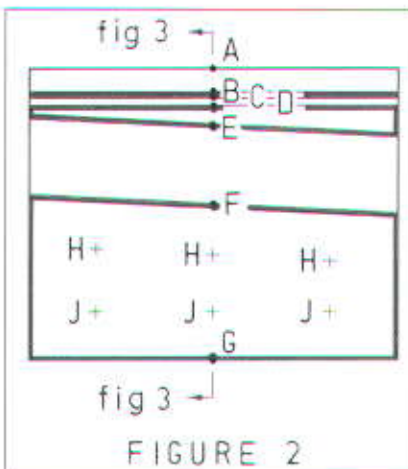
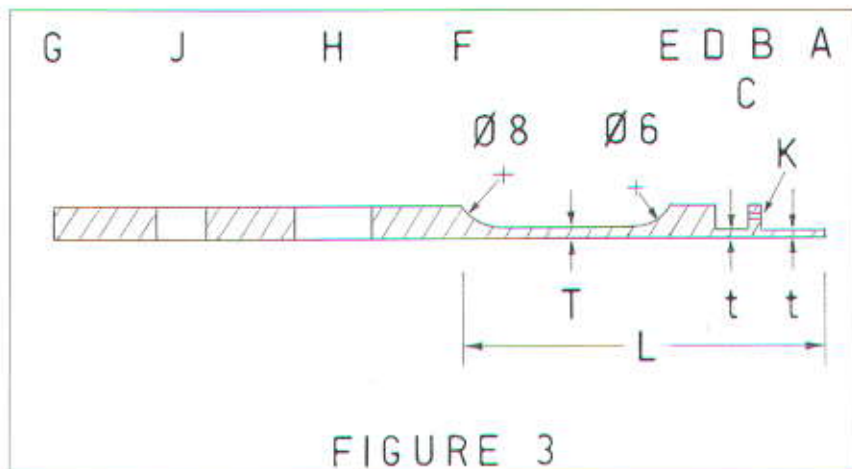

FIGURE 2
FIGURE 3
The areas outlined in blue are those parts of the comb which are to remain at full thickness; other areas will be milled down to thicknesses of 0.5mm or 0.62mm as shown in figs 2 and 3. Fig 2 is a larger scale representation of the centre segment embracing Middle C, whilst fig 3 shows a cross-section of the comb at the centre of Middle C.
Key to figures 2 & 3
- K (fig 3 only) is damper wire hole location
Slots were milled using end mills. Tips, AB in fig 2, were cut with a 12mm dia. mill, CD, the damper slot, with a 2.5mm dia. tool. Before re-positioning the work piece on the jig for cutting the root slot, it is worthwhile replacing the mill with a 1 dia. drill bit and pop-marking points E and F at the segment centre. For the Middle C segment these are 12.05mm and 28.05mm from A respectively, see fig 2. The value and use of these marks will be explained in the next part of this article.